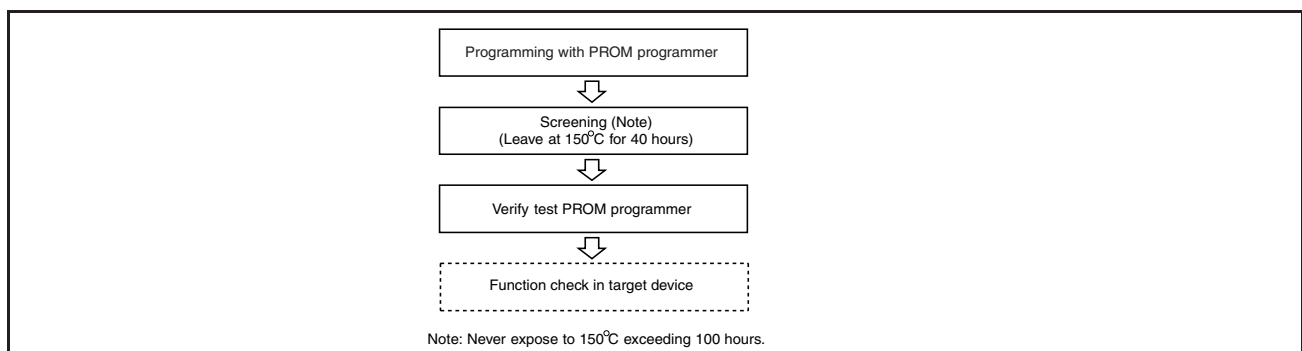

Figure 1.114: Programming and test flow for One-time PROM (OTP) version
- One Time PROM versions shipped in blank, of which built-in PROMs are programmed by users, are also provided. For these microcomputers, a programming test and screening are not performed in the assembly process and the following processes. To improve their reliability after programming, we recommend to program and test as flow shown in Figure 1.114 before use.